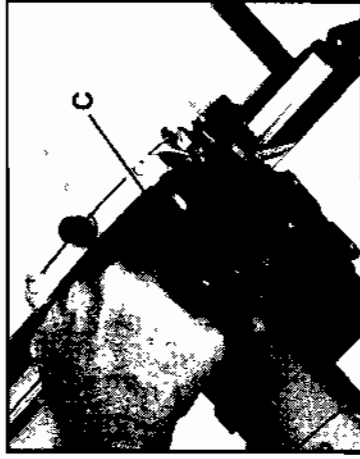

Fig. 25
6. Position machine to workpiece with bottom of base against straight edge and guide notch (C) Fig. 25, aligned with a groove centerline. Apply pressure to auxiliary handle (D) Fig. 25 to hold machine firmly in place.